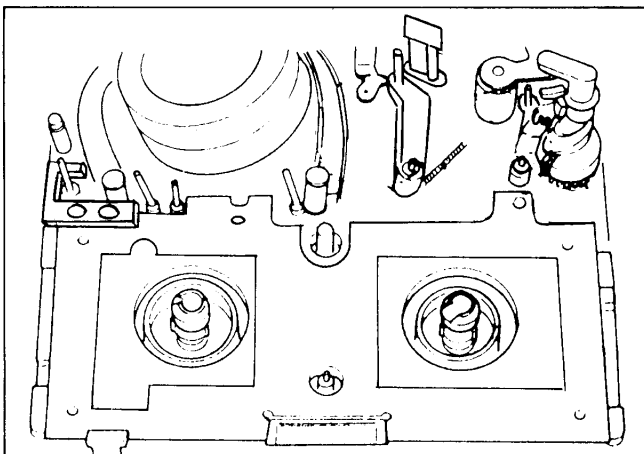

Figure M42
2. Push the Sub Wiper Arm (R) to direction of Cassette loading. Then the Sub Wiper Arm (R) goes down itself and mode of machine change to STOP.
7. Place the Tension Post Position Adjustment Plate with the Fixture over the reel tables as shown in Figure M42.